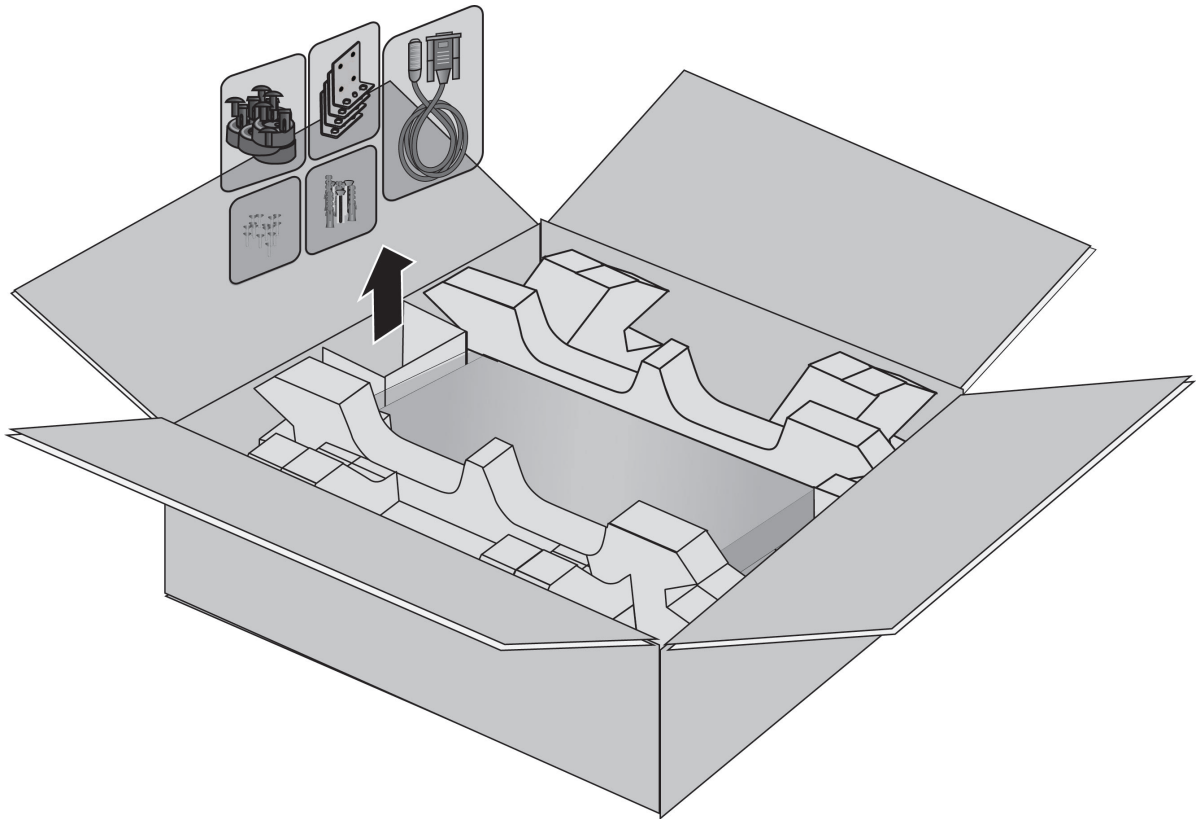

Figure 46. Removing Accessories
1. Remove the accessories and documents from the accessory partition. Refer to Figure 46.